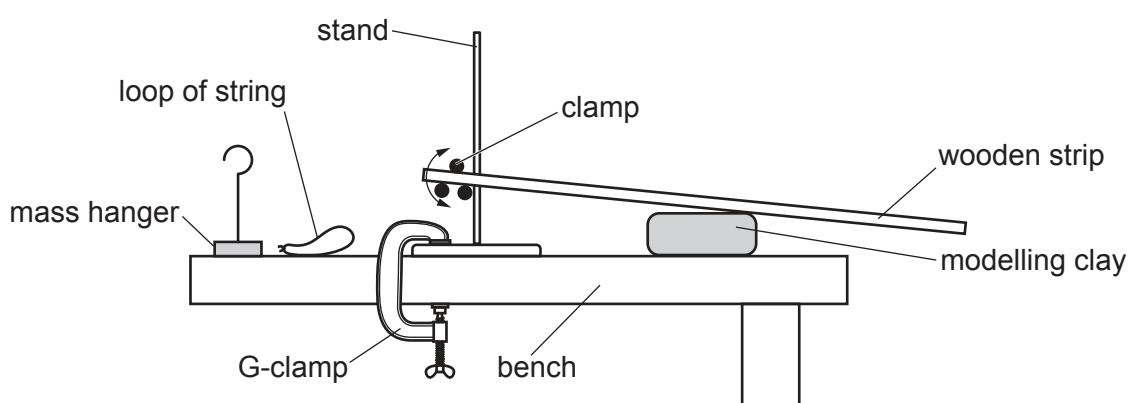

Fig. 3.2
3. The supervisor must set up the apparatus as shown in Fig. 3.2. A wooden strip of approximate length 100 cm, e.g. another metre rule if one is available, must be attached to the clamp approximately 10 cm from one end. It must be possible for the shaft of the clamp to rotate freely in the boss when the boss is attached to the stand. The stick must be horizontal when it is balanced on top of the glass ball placed on top of the modelling clay. The other end of the wooden strip must overhang the bench by approximately 15 cm as in Fig. 3.2.
The supervisor must ensure that the apparatus is as described in Note 1 and in the configuration shown in Fig. 3.2. Any indentations in the surfaces of the modelling clay must be removed by rolling it smooth again.